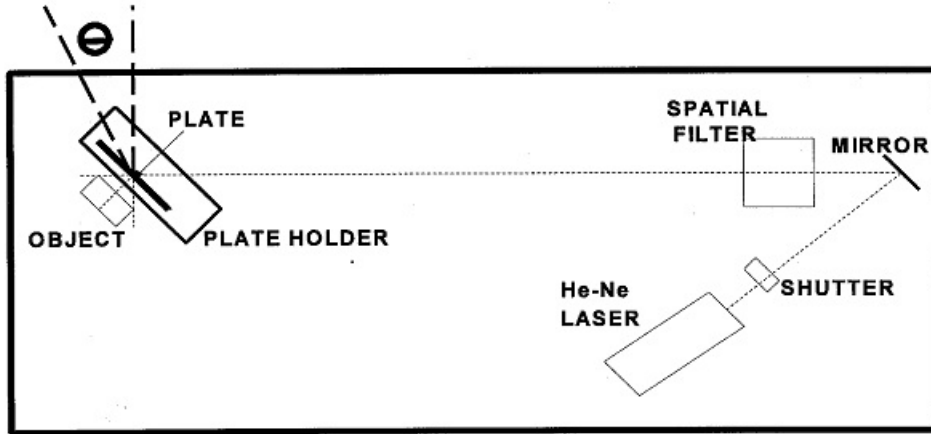

Figure 1- Basic single-beam reflection hologram arrangement
We have equipment for a single beam reflection hologram. The set-up will look like fig. 1. The laser beam originates in the 5 mW laser device, which is firmly mounted onto the vibrationless table (a slab of granite outfitted with metal plates bolted to it): it then passes through the electro-mechanically operated shutter (just press the shutter slide button and it opens — remains open for about 3-4 seconds) and bounces off of the adjustable tilt mirror. It then passes through a spatial filter, which consists of a $10\times$ microscope objective lens and a pinhole with a mirror (its purpose and way of operation is described below) before hitting the emulsion plate, passing through it and forming a standing wave with its reflection from the object positioned immediately behind the plate. The fringes formed in this way are captured by the plate, resulting in a holographic image.
4. Position the plate holder about 1 m away from the spatial filter stand, and aim it as in the diagram (fig. 1). Direct it at an angle of $50 - 60^\circ$ to the direction perpendicular to the incident beam¹ (this is close to Brewster's angle for a standard glass plate) to help minimize reflection by making the reflected beam p-polarized. Note: this will work best if the laser beam is horizontally polarized: check this with a polarization filter. If you do not have one, ask the Technologist.
¹we are referring to θ in fig. 1.